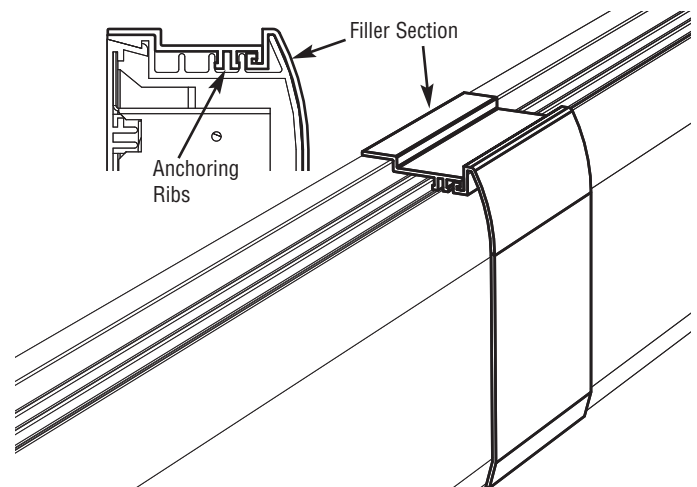

Figure 2 - Filler Section (Slim Line Shown)
2. Position the filler section on top of the heater(s) and press anchoring ribs down between the outlet louvers (Figure 2). If necessary, protect the top of the filler section with a block of wood and tap the filler section gently into place.